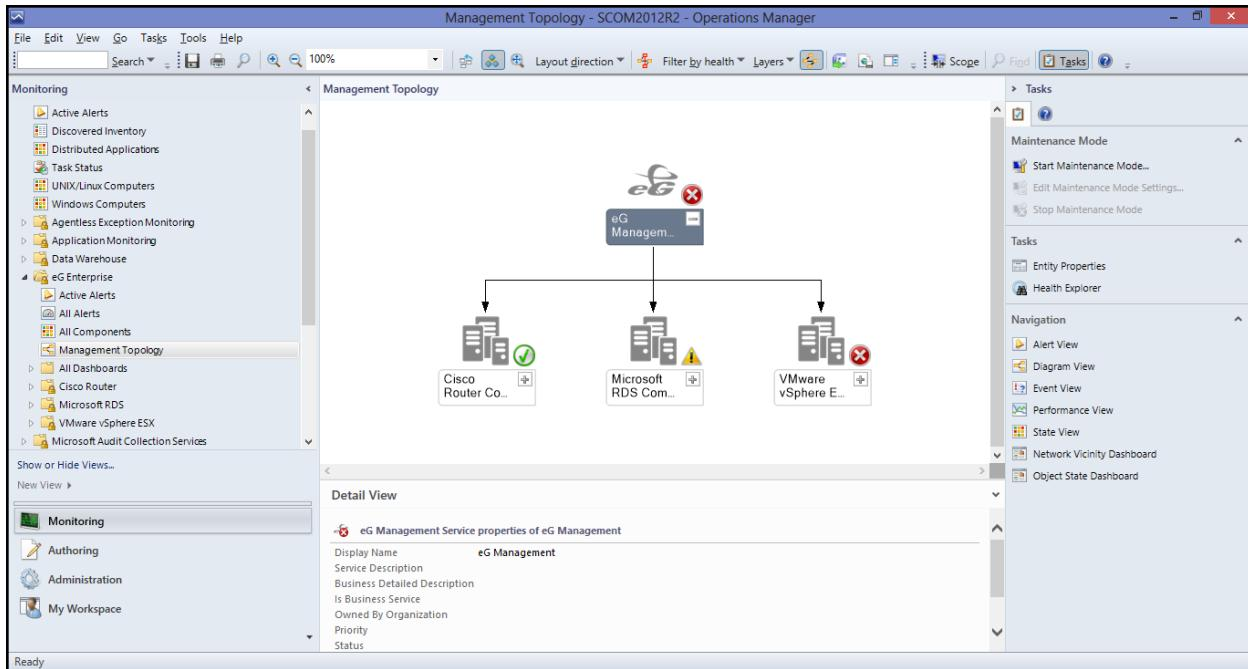
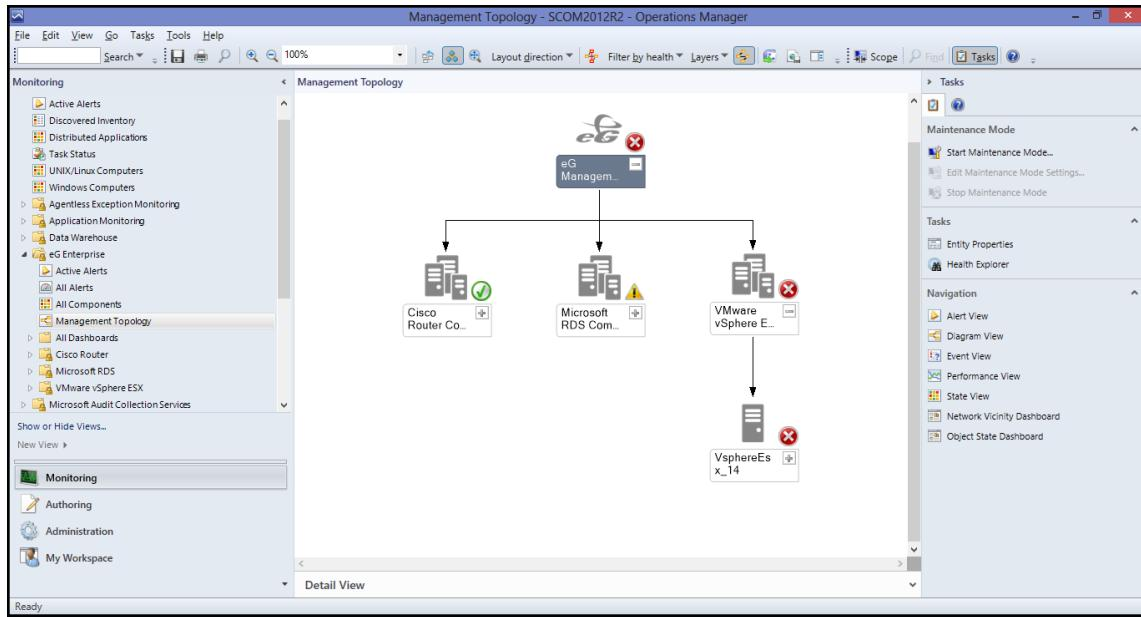
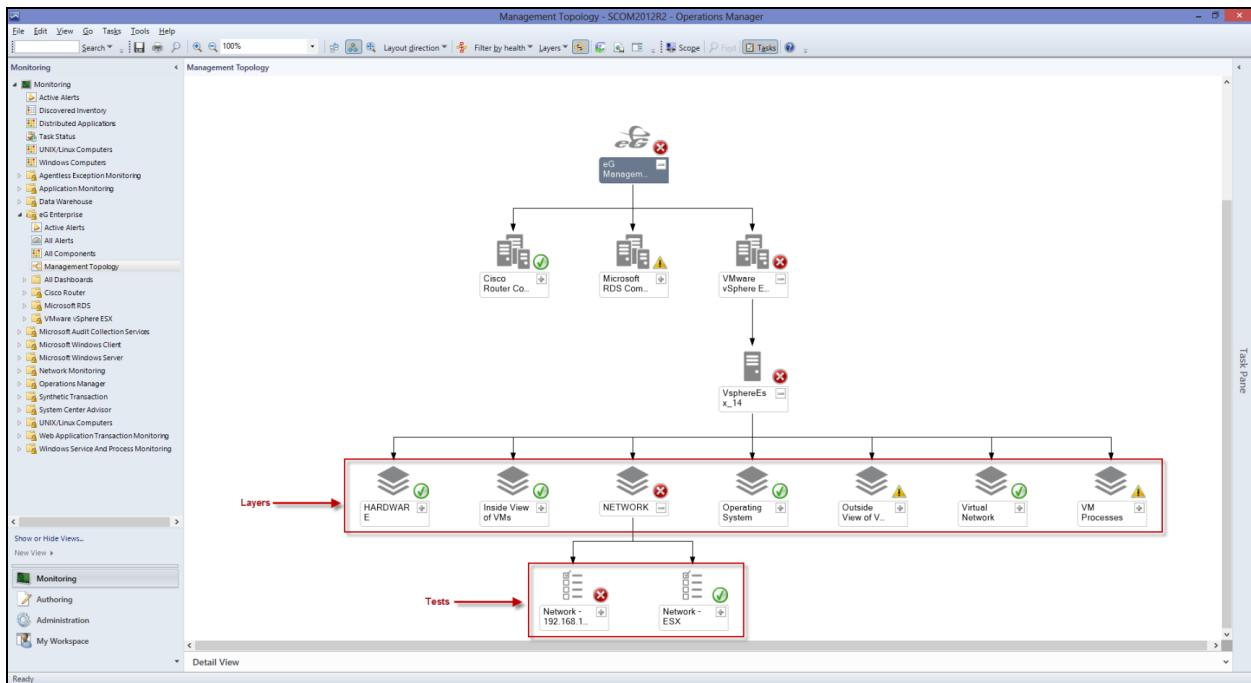

Figure 4.10: The Management Topology of the eG-managed infrastructure
Figure 4.11: Drilling down from the high-level topology view to know which VMware vSphere server is in a Critical state
Figure 4.12: Isolating the layer and test that reported the Critical issue
- Click the **Management Topology** node below the **All Components** node (see Figure 4.10). The right panel will then display the topology representation depicted by Figure 4.10. From the
2. You can also drill-down from the high-level topology view of Figure 4.10 to identify the vSphere server that is experiencing the Critical issues and to zero-in on the precise problems that are impacting this server's performance. For this click on the '+' icon alongside *VMware vSphere ESX* in Figure 4.10. Figure 4.11 will then appear.
- Figure 4.11 reveals that the vSphere server, *VsphereEsx_14*, is the only vSphere server that is managed in the environment, and is currently in a Critical state. To identify the exact layer where the Critical issue occurred, drill down from the component view by clicking on the '+' icon alongside *VsphereEsx_14*. Figure 4.12 will then appear displaying the layers of eG's specialized layer model for VMware vSphere ESX. From the state of the layers, it is clear that Critical issues have occurred in **NETWORK** layer. If you now drill down from the **NETWORK** layer by clicking on the '+' icon alongside, you can identify the exact test that reported the Critical problem. In the case of our example, the **Network** test seems to have captured a Critical issue; this implies that a critical network-related issue is what caused the performance of the VMware vSphere server to suffer.